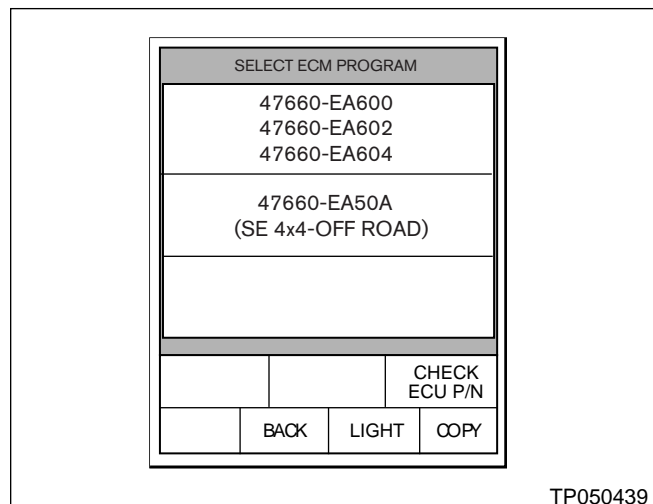

Figure 17
3. Select the applicable VDC program to install (see Figure 17):